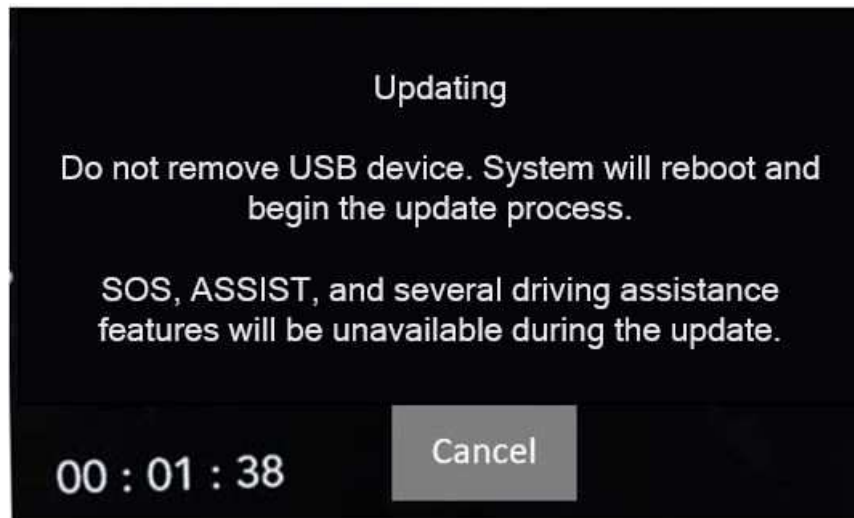

Fig. 8
NOTE: If the ignition is turned off before the two minutes has expired, the software update will be canceled (Fig. 8) .
14. When the radio starts updating, the screen in (Fig. 8) will be displayed.